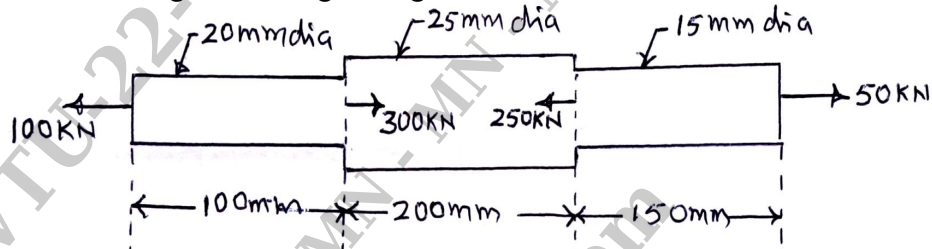

Fig.Q1(c)
- c. Determine the stresses in various segments of circular bar shown in the Fig.Q1(c). Also compute the total elongation taking Young's modulus $E = 195 \text{ GPa}$.